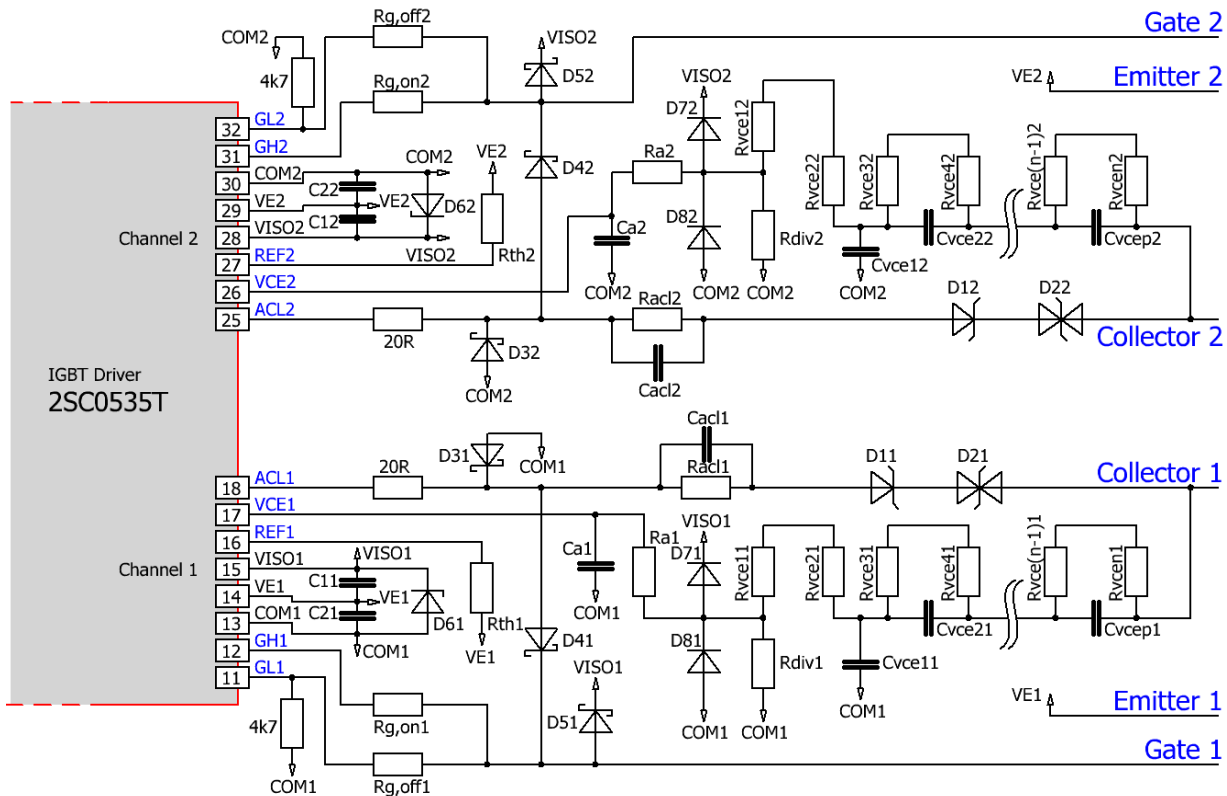

Fig. 7 Recommended user interface of 2SC0535T (secondary sides)
It is recommended to insert an external capacitance of 9.4µF between the VISOx and VEx terminals (C_{1x} in Fig. 7) to drive IGBT modules with a gate charge of up to 4.7µC.
- 4µF per 1µC between VISOx and VEx (C_{1x} in Fig. 7) as well as
- 2µF per 1µC between VEx and COMx (C_{2x} in Fig. 7)
A 27V Zener diode with 2% tolerance (e.g. BZX384-B27 from NXP) must be placed between VISOx and COMx (D6x in Fig. 7). Note that future versions of the 2SC0535T with PCB number CT-271-3 or higher will include the Zener diode on the driver core. No external Zener diode is then required.
The collector sense must be connected to the IGBT collector with the circuit shown in Fig. 7 in order to detect an IGBT overcurrent or short circuit.
Basic active clamping topologies implement a single feedback path from the IGBT's collector through transient voltage suppressor devices (TVS) to the IGBT gate. The 2SC0535T supports Power Integrations' Advanced Active Clamping, where the feedback is also provided to the driver's secondary side at pin ACLx: as soon as the voltage on the right side of the 20 Ω resistor (see Fig. 7) exceeds about 1.3V, the turn-off MOSFET is progressively switched off in order to improve the effectiveness of the active clamping and to reduce the losses in the TVS. The turn-off MOSFET is completely off when the voltage on the right side of the 20 Ω resistors (see Fig. 7) approaches 20V (measured to COMx).
It is recommended to use the circuit shown in Fig. 7. The following parameters must be adapted to the application: